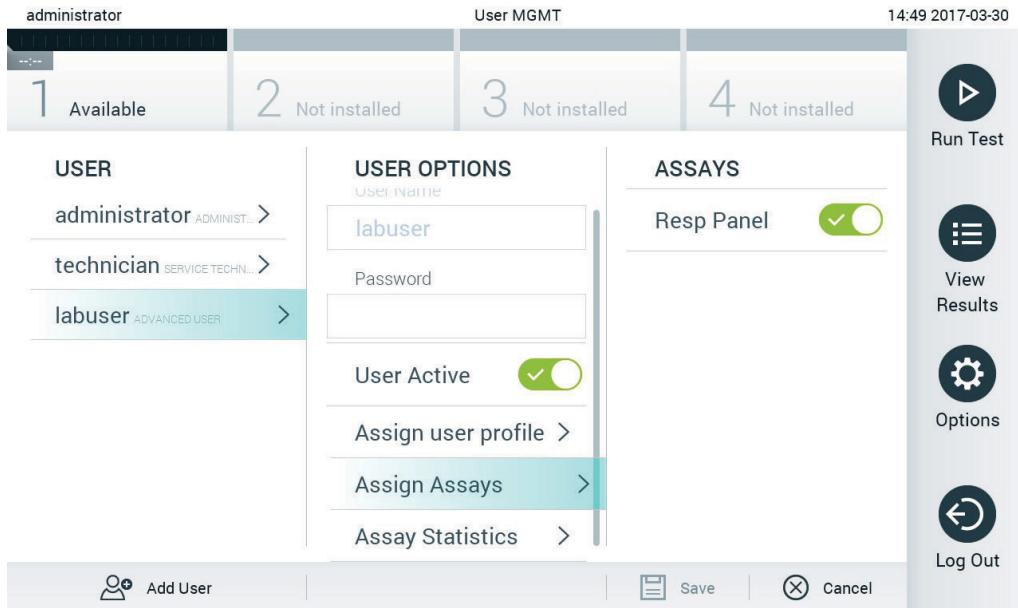

Figure 61. Assigning assays to users.
- **Assign Assays:** Allows defining the assays from the assay database that the user is permitted to run. Select the assays from the list on the right of the content area (Figure 61, next page).